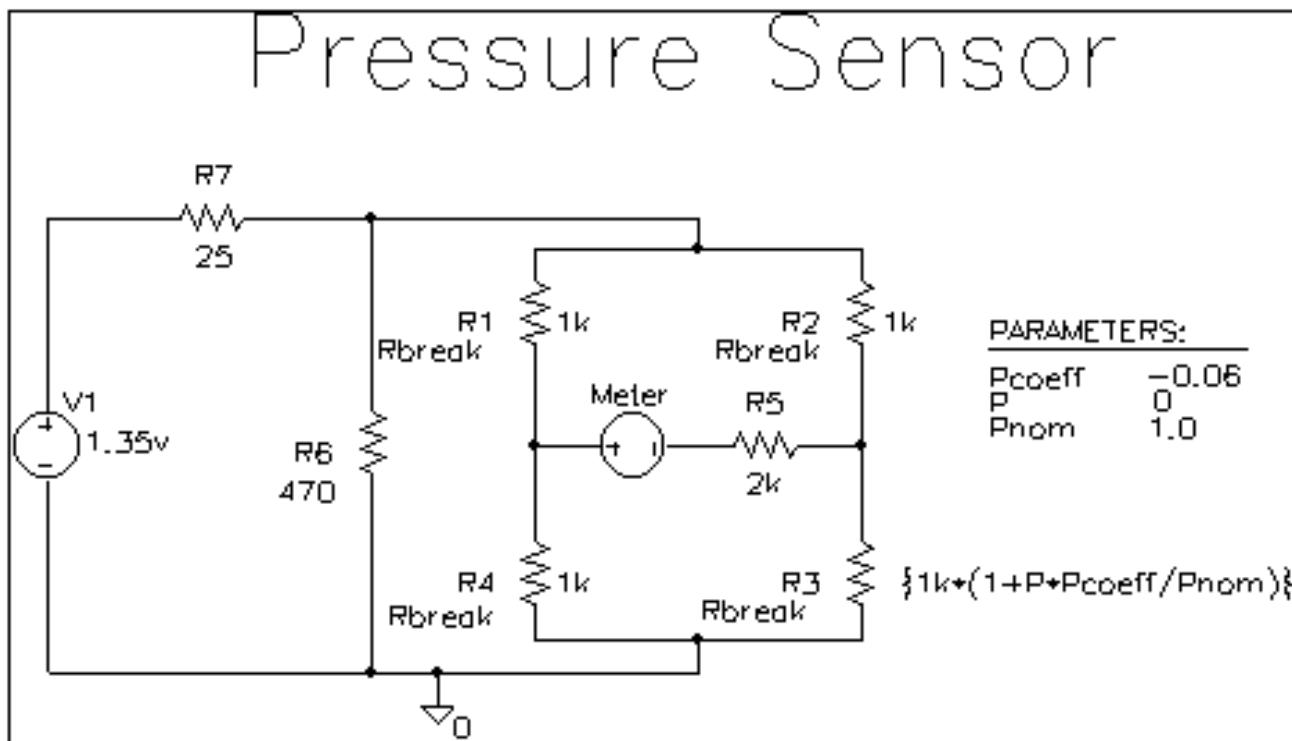

Figure 13-5 Pressure sensor circuit.
To begin, construct the bridge as shown in Figure 13-5.
Define the part values as shown in Figure 13-5. For the pressure sensor, you need to do the following:
2. Type the new value. Depending on the resistor you are changing, set its value to one of the following (refer to Figure 13-5).